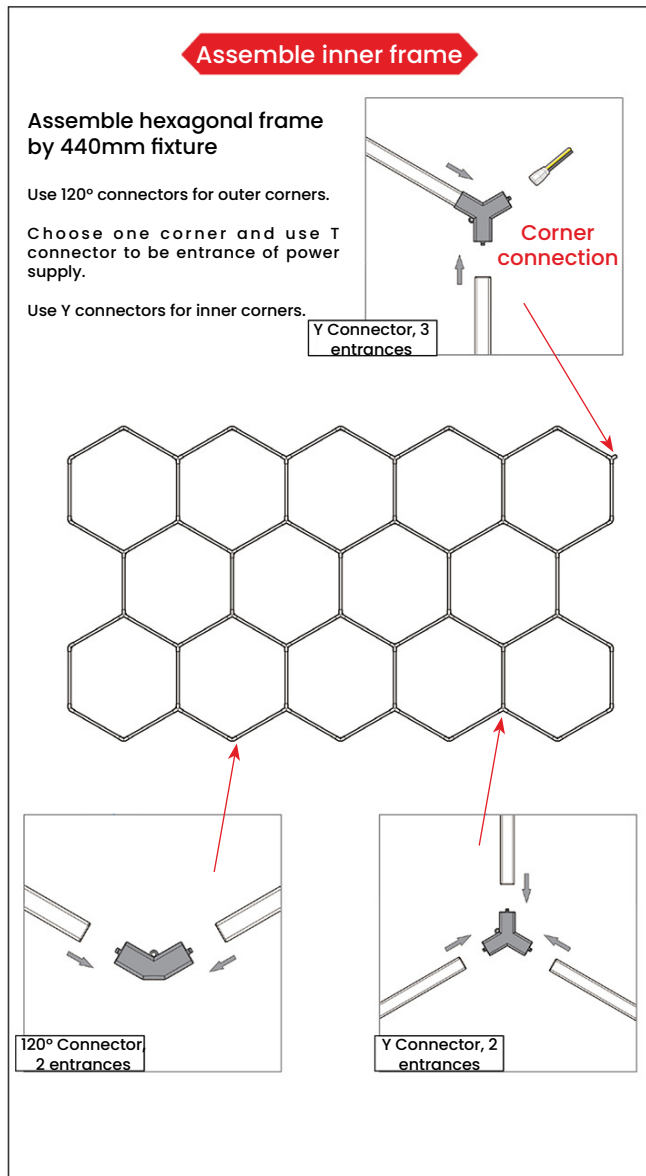

Figure 3
7. Installation on open ceiling cell or mounting bracket: fix the frames by cable tie. See Fig 3.
8. Installation on drywall or concrete ceiling: Fix the mounting clips on ceiling and attach the frame on the clips. See Fig 3.